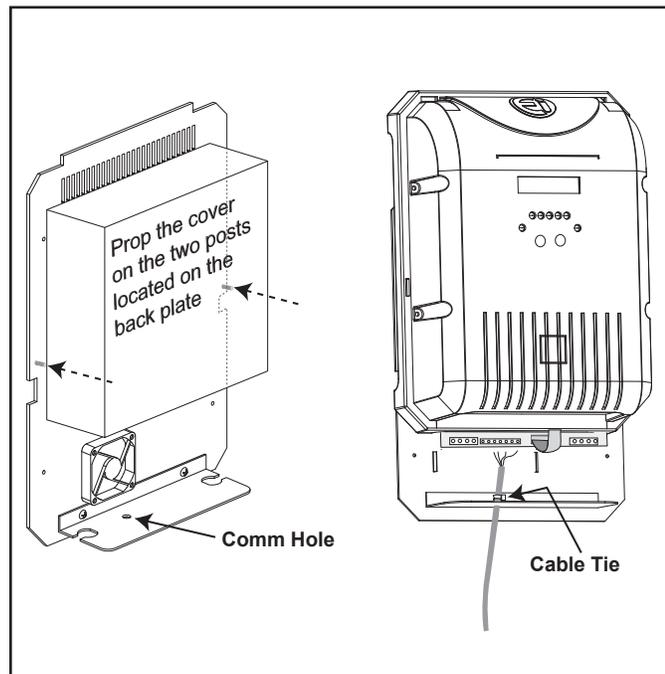

Figure 21. Accessing and Wiring to the Power PCB
2. Remove the screws attaching the cover to the back plate and prop the cover up to expose the terminals (see Figure 21).
3. Remove the white cap covering the comms hole (see Figure 21).
5. Attach a cable tie to the controller cable as shown (see Figure 21).